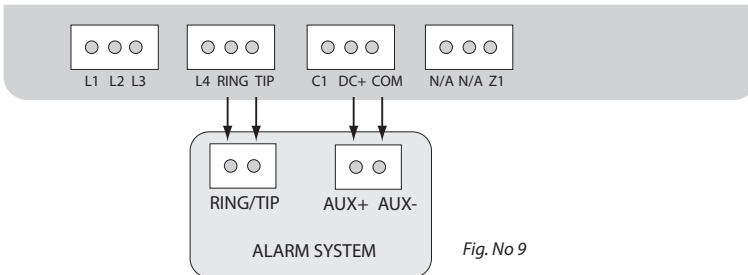

Fig. No 9
1. Connect the circuit as indicated in Fig. No. 9 – connect telephone contacts of the alarm system RING/TIP to RING/TIP contacts of the communicator.